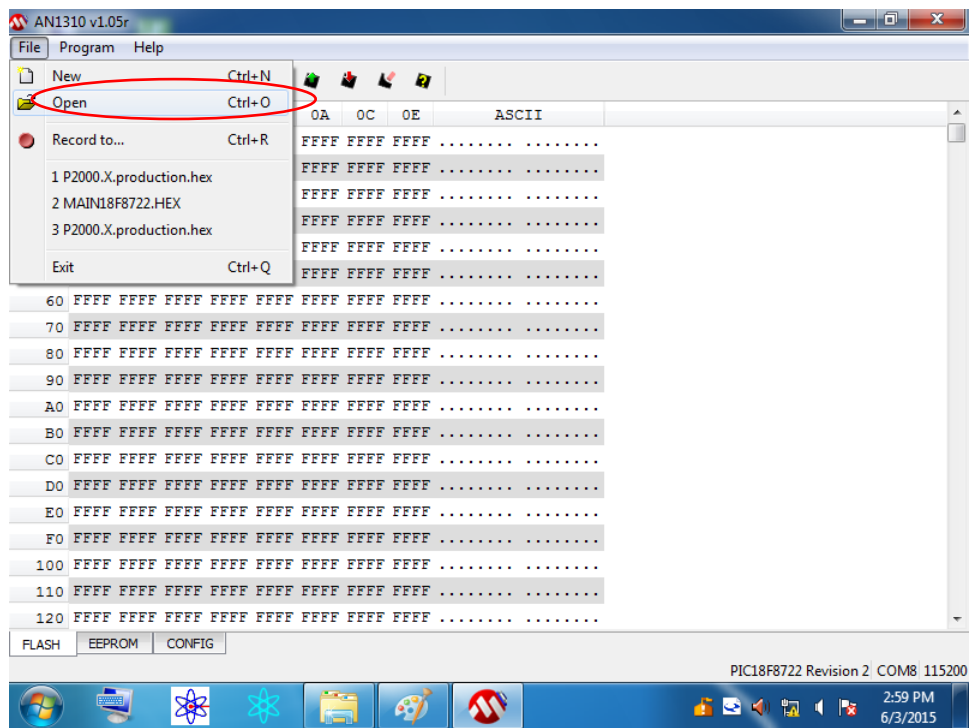

Figure 3.19
- From the main menu select **File>Open** (Figure 3.19)